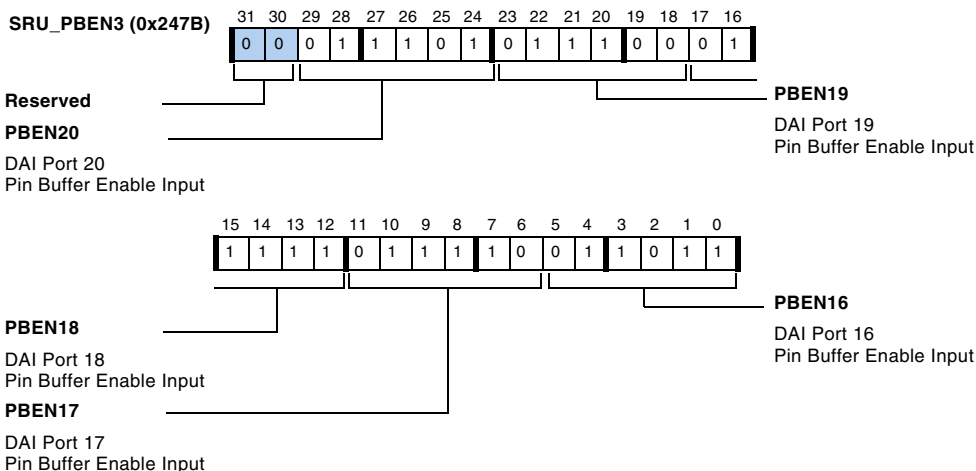

Figure A-55. SRU\_PBEN3
- SRU\_PBEN3, described in Figure A-55